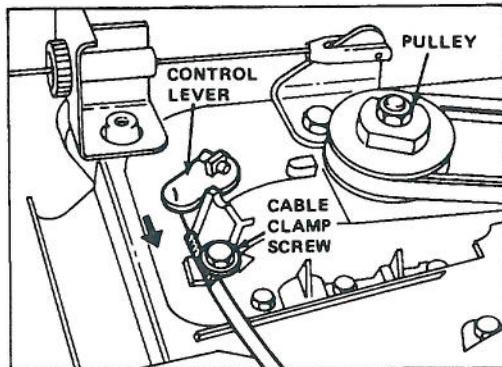

Figure 25
3. ADJUSTMENT (Fig. 25) — Loosen cable clamp screw until cable conduit slides. Push transmission control lever toward cable clamp screw and hold lever in place. Pull cable to remove slack and tighten clamp screw.
4. CHECK ADJUSTMENT — Assure ground speed control is in "N" and pull mower backward. Pulley (Fig. 25) should not rotate. If pulley does rotate, readjust for neutral: refer to step 3.